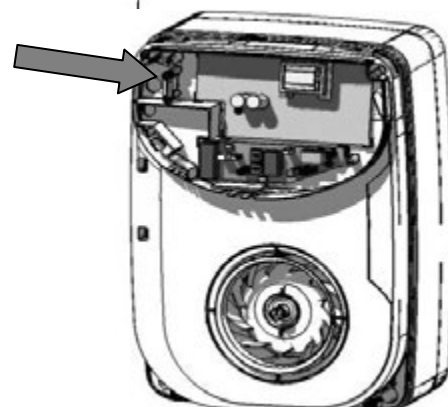

Fig.13
11) Close Door and Connect flexible mains cable as described in section B – Wiring, ensure cable clamp is used adjust any settings as required see section C – Setup. Fig 13